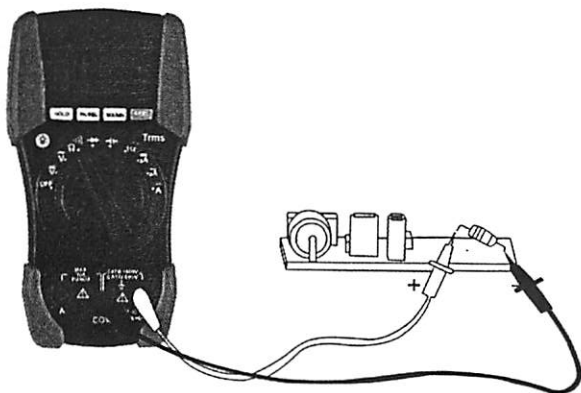

Fig. 6: Operation for Resistance measurement and Continuity test
2. Insert the test leads into the jack, the red plug into $\rightarrow\text{HzV}\Omega\mu\text{A}$ jack and black plug into COM jack (see Fig. 6).